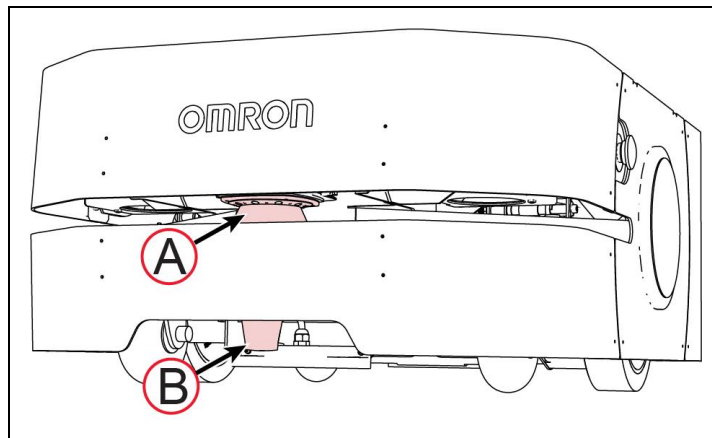

Figure 7-8 LD-250 Lasers
The LD-250 Safety Scanning Laser [(A) in Figure 7-8] is an Omron OS32C model. It is a precise scanning and navigation sensor with the following characteristics:
The low front laser [(B) in Figure 7-8] detects obstacles below the scanning plane of the safety laser, such as an empty pallet or a human foot. This laser also detects obstacles that might be significantly wider at the base, such as a column plinth, where the main safety laser might detect only the upper portion of the column.